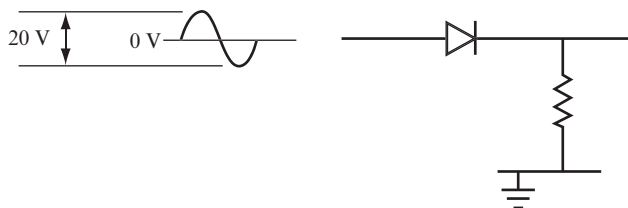
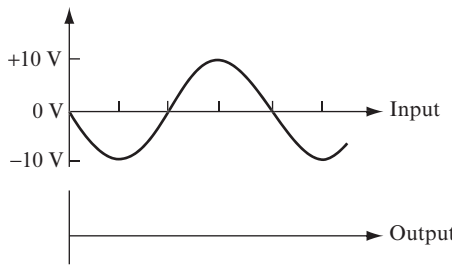
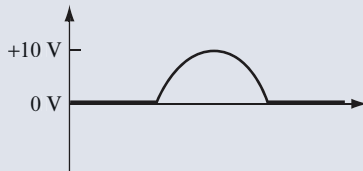

FIGURE 11.3
FIGURE 11.6
FIGURE 11.7
3 Figure 11.3 shows a circuit with 20 V_{pp} AC input signal centered at 0 volts DC.
- 4** When the input is negative, the diode in the circuit shown in Figure 11.3 is reverse-biased. Therefore, the output voltage remains at 0 volts.
Figure 11.6 shows the input waveform for the circuit shown in Figure 11.3. Draw the output waveform on the blank graph provided in Figure 11.6.
See Figure 11.7.
5 Figure 11.7 shows the output waveform of the circuit shown in Figure 11.3, for one complete cycle of the input waveform.
Now, draw the output waveform for three complete cycles of the input waveform shown in Figure 11.6. Use a separate sheet of paper for your drawing.
On a separate sheet of paper, draw the output waveform for three input cycles, assuming that the diode is connected in the opposite direction from the diode shown in Figure 11.3.